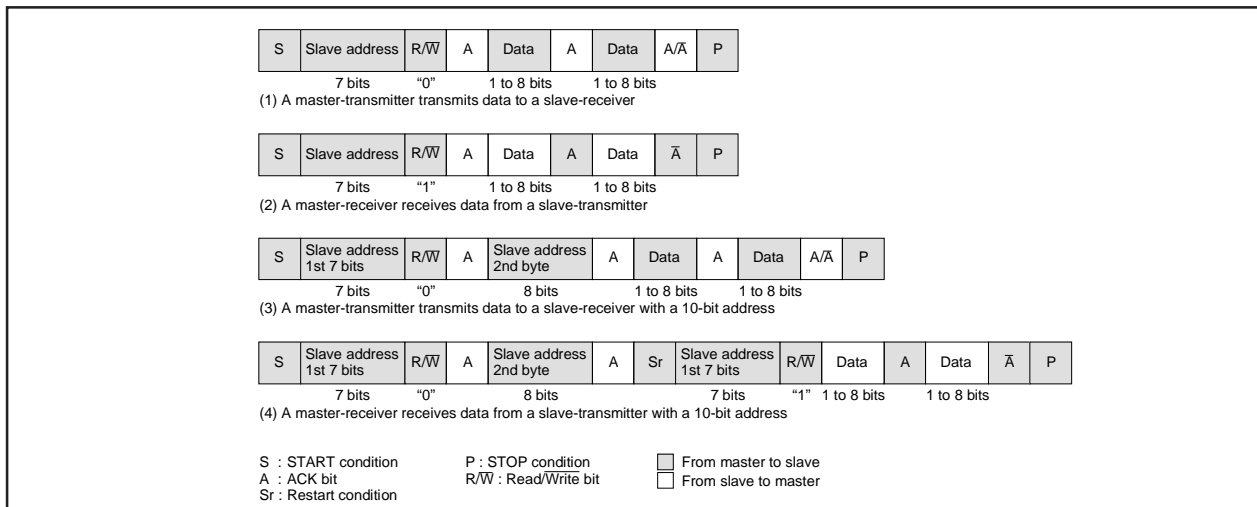

Fig. 2.11.45 Address data communication format
To meet the 7-bit addressing format, set the 10BIT SAD bit of the I2Ci control register to "0." The first 7-bit address data transmitted from the master is compared with the high-order 7-bit slave address stored in the I2Ci address register. At the time of this comparison, address comparison of the RBW bit of the I2Ci address register is not made. For the data transmission format when the 7-bit addressing format is selected, refer to Figure 2.11.45, (1) and (2).
When the first-byte address data matches the slave address, the AAS bit of the I2Ci status register is set to "1." After the second-byte address data is stored into the I2Ci data shift register, make an address comparison between the second-byte data and the slave address by software. When the address data of the 2nd bytes matches the slave address, set the RBW bit of the I2Ci address register to "1" by software. This processing can match the 7-bit slave address and R $\bar{W}$  data, which are received after a RESTART condition is detected, with the value of the I2Ci address register. For the data transmission format when the 10-bit addressing format is selected, refer to Figure 2.11.45, (3) and (4).
**(11) Example of Master Transmission**